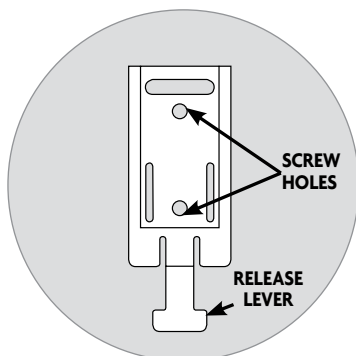

Fig. 15 - Chair/Wall Bracket (Front View)
2. Use wall/chair bracket (Cat. No. 8276 (without wire clip), (fig. 15).
- Position wall bracket with back (flat side) against wall (fig. 15).